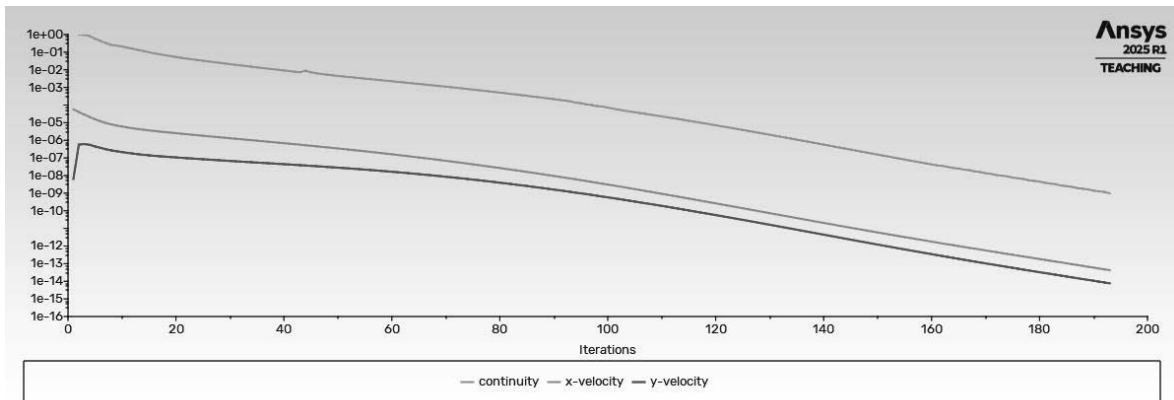
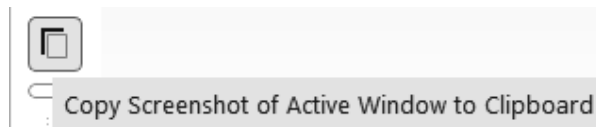

Figure 2.12b) Scaled Residuals
Figure 2.12c) Copying screenshot
Why did we set the Absolute Criteria to 1e-9? Generally, the lower the absolute criteria, the longer time the calculation will take and give a more exact solution. We see in Figure 2.12b) that the x-velocity and y-velocity equations have lower residuals than the continuity equation. The slopes of the residual curves for all three equations are about the same with a sharp downward trend.
- Double click on Run Calculation under Solution and enter 5000 for *Number of Iterations*. Click on the *Calculate* button. The calculations will be complete after 193 iterations, see Figure 2.12b). Click on Copy Screenshot of Active Window to Clipboard, see Figure 2.12c). The Scaled Residuals can be pasted into a Word document.